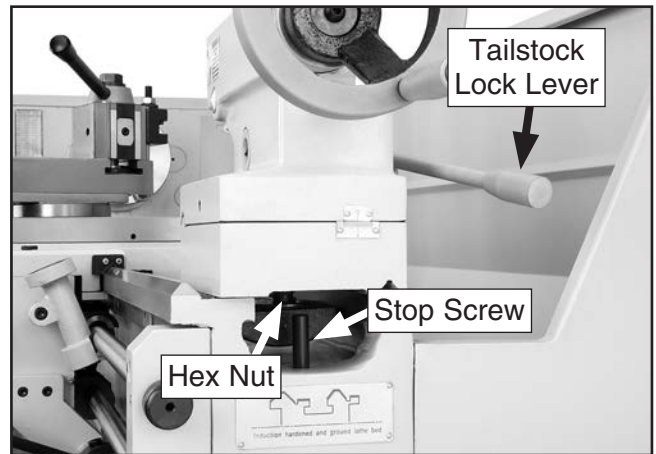

Figure 138. Tailstock locking hex nut and plate.
1. Unthread stop screw (see **Figure 138**), and carefully slide tailstock from lathe.